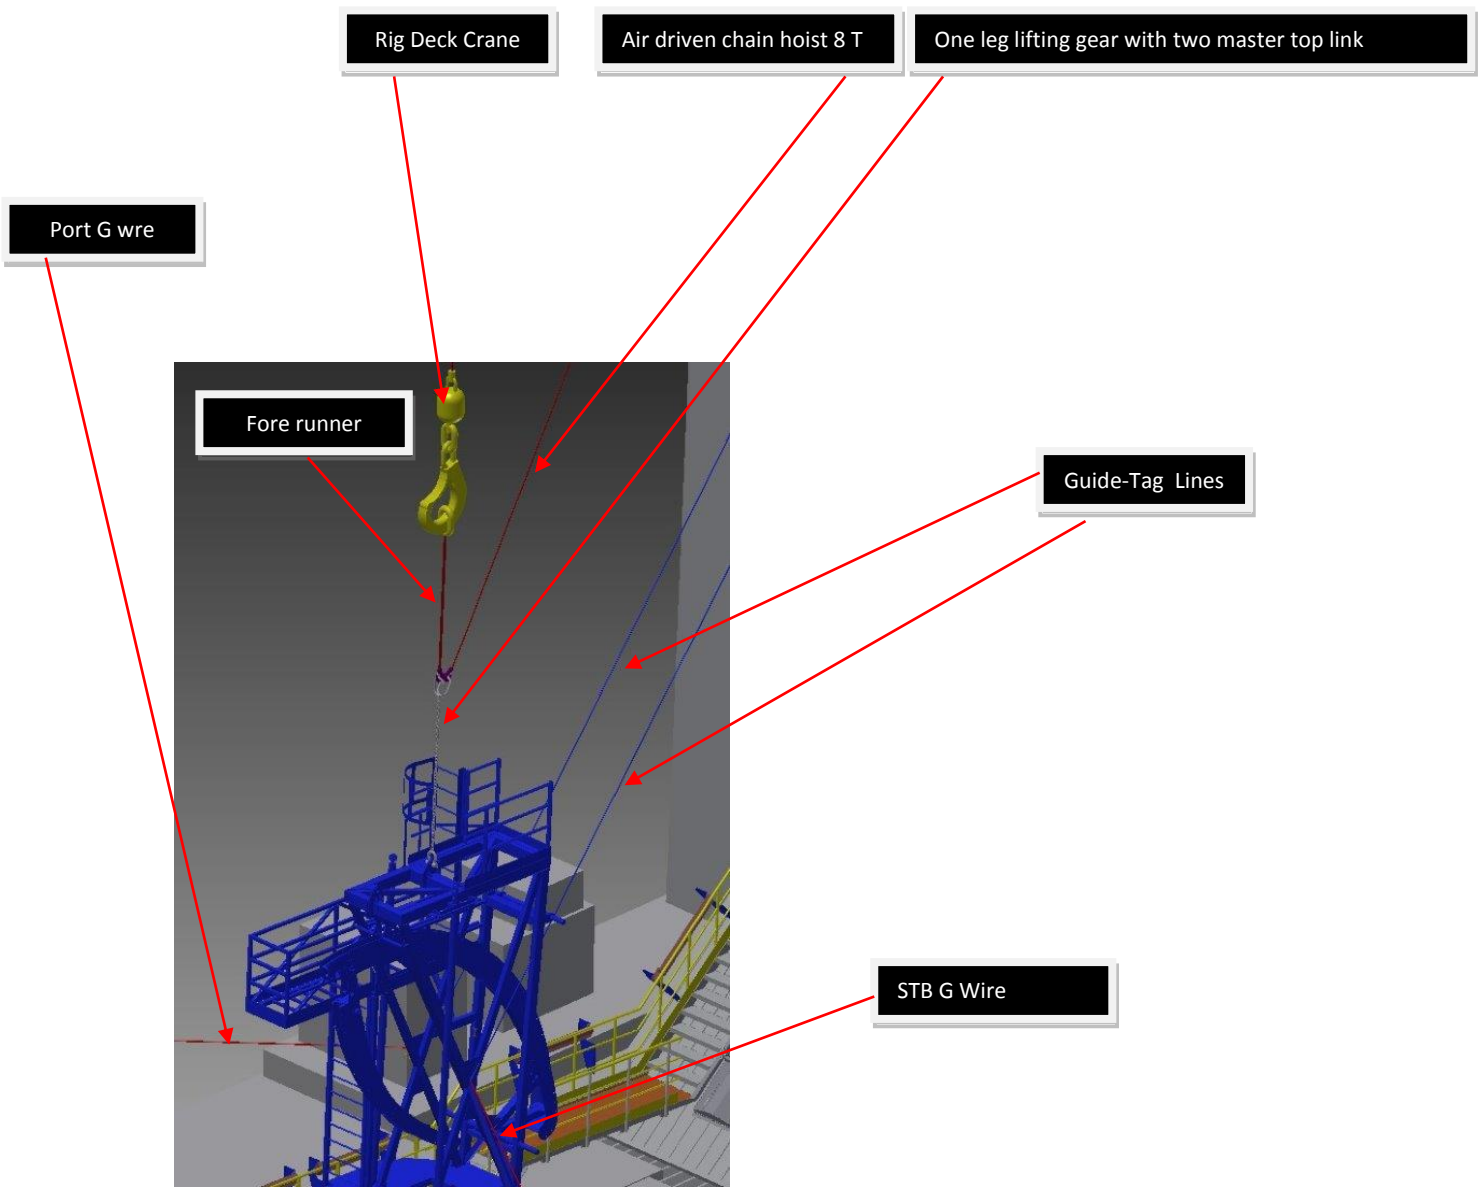

Figure 4.2.1 Lower position GHF
- Rig up as shown in 3841-A0002 (lower position, Figure 4.2.1)